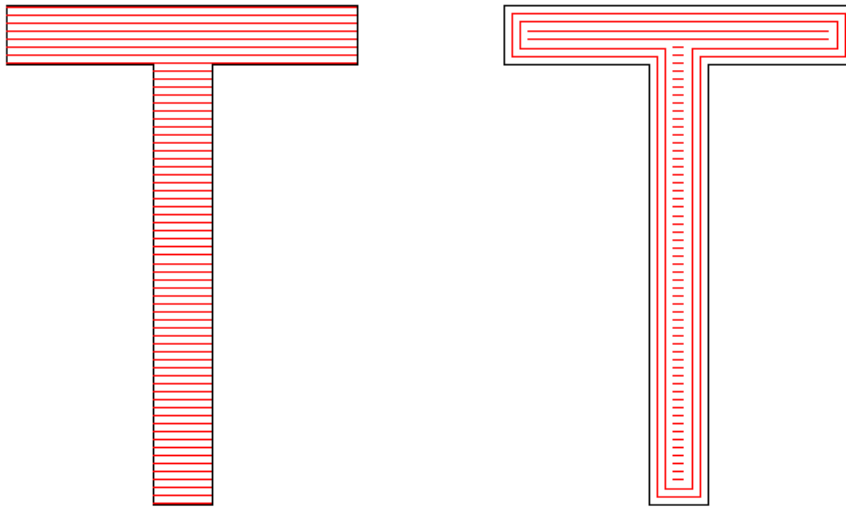

Figure 3-11 NumLoops
**NumLoops:** The times of Ring-like hatch before the aclicining hatch (Figure 3-11).